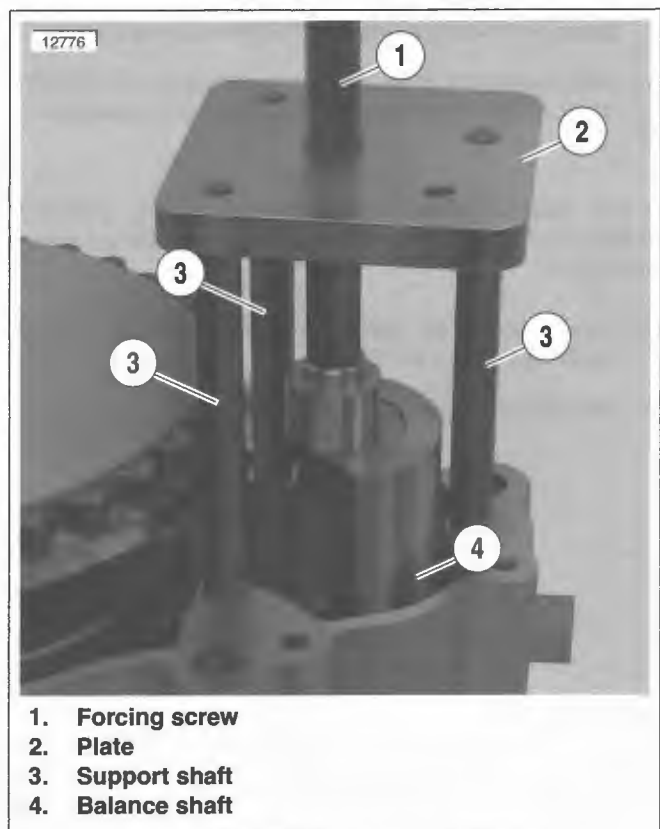

Figure 3-151. Balance Shaft Remover
2. See Figure 3-151. Assemble balancer shaft remover.
- a. Sparingly apply graphite lubricant along threads of forcing screw (1) to prolong service life and ensure smooth operation.
- b. Install support shafts (3) in crankcase.
- c. If replacing front shaft, install plate (2) over support shafts with side marked "Front" facing up. If replacing rear shaft, install plate over support shafts with side marked "Rear" facing up.
- d. Install forcing screw in balance shaft (4).